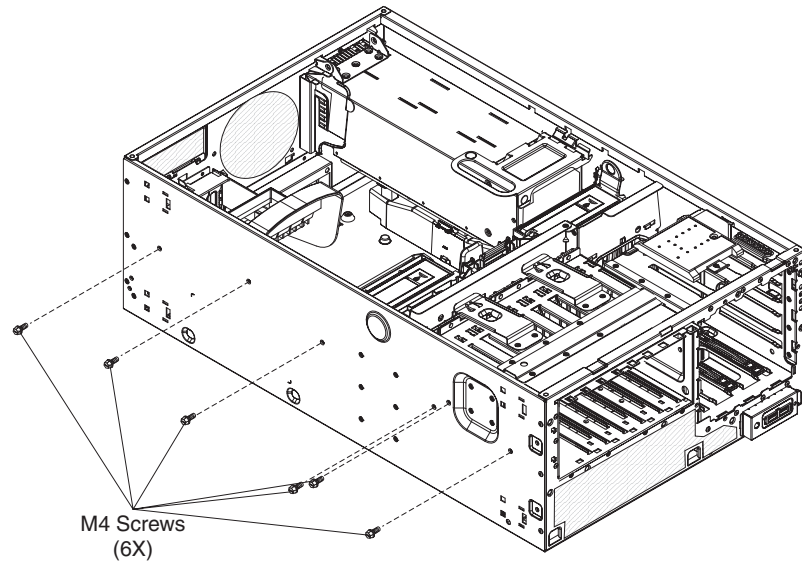

Figure 7. Removing the six M4 screws
6. Remove the six M4 screws from the server as shown in Figure 7 on page 9. Save these screws for use in step 6 on page 25.